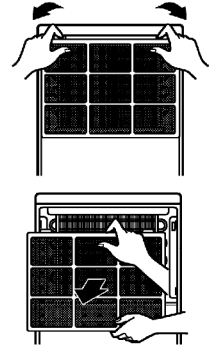

Figure 10
4. Pressing the hooks, pull out the air filter. (See Figure 10)